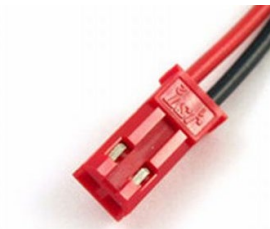

Figure 9. Competition-provided connector for manual shutdown interface.
- The competition switch will be terminated with the corresponding polarity JST RCY male plug (Manuf. P/N: SYP-02T-1 plug housing using SYF-001T-P0.6[LF][SN] socket contacts) (Figure 9).